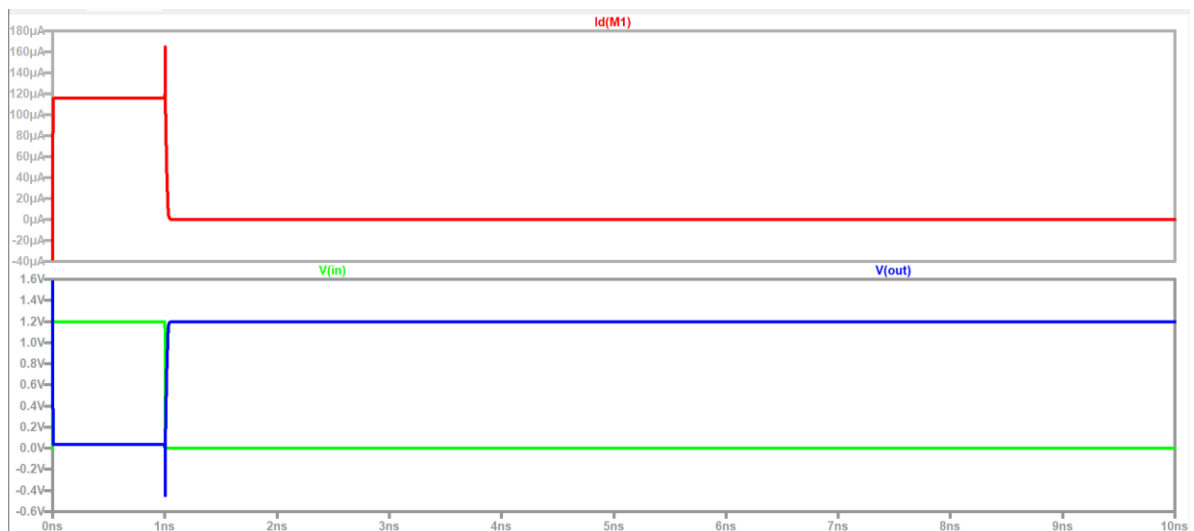

Fig. 9. Simulation results (2)
11. The disadvantage of this circuit is that power consumption occurs when the output signal is logic 0. To confirm this with a simulation, we will add another window to display the results: Plot Settings / Add Plot Pane and display the drain current of the transistor (Fig. 9) or right click on the plot, and select Plot Pane.